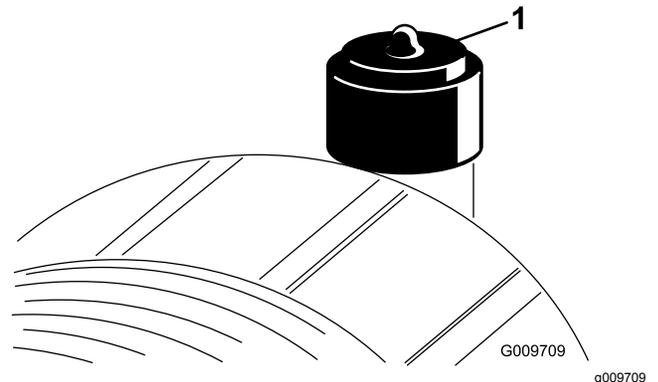

Figure 69
Service the air-cleaner filter only when the service indicator requires it (Figure 69). Changing the air filter before it is necessary only increases the chance of dirt entering the engine when you remove the filter.
2. Reset the indicator (Figure 69) if it shows red.